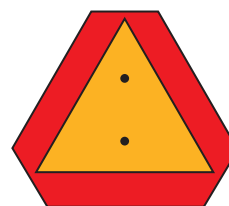

Figure 3-19: SMV Sign
- Transport during daylight hours whenever possible. Always use flashing warning lights, except where such use is prohibited by law. Make sure lights, reflectors and SMV emblem are clearly visible and operating. Remove any obstructions such as dirt, mud, stalks or residue that restricts view before transporting. **See Figure 3-19.**